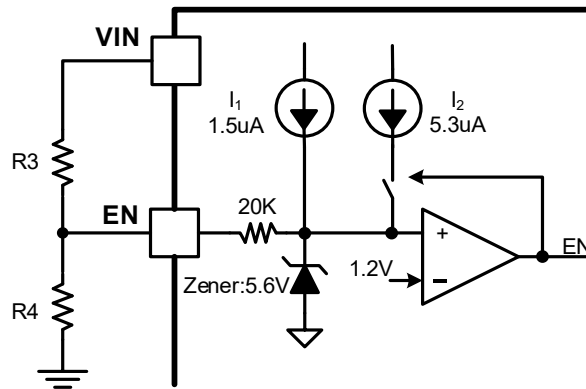

Figure 7. Adjustable VIN UVLO
An internal 1.5uA pull up current source connected from internal LDO power rail to EN pin guarantees that floating EN pin automatically enables the device. For the application requiring higher VIN UVLO voltage than the default setup, there is a 5.3uA hysteresis pull up current source on EN pin which configures the VIN UVLO voltage with an off-chip resistor divider R3 and R4, shown in Figure 7. The resistor divider R3 and R4 are calculated by equation (3) and (4).